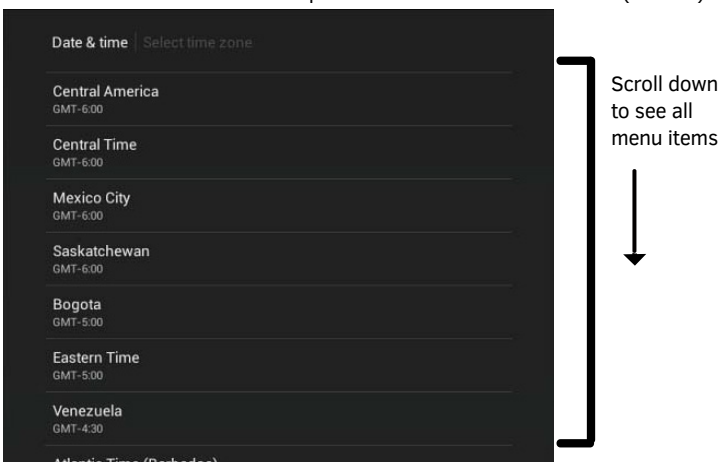

**FIG. 81** NTP Server window
2. Press **Custom** to open the *NTP Server window* (FIG. 81):